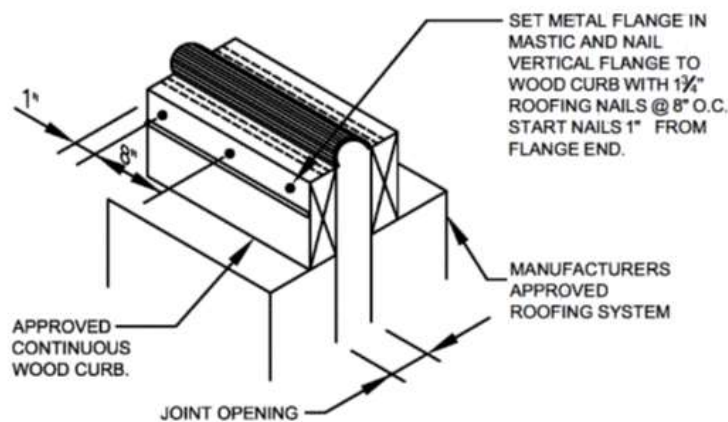

Figure 2
2. Set flange in membrane compatible mastic and nail to vertical surface of roof curb w/ (1) 1¾" roof nail at 8" o.c. start nails 1" from flange end. **See Figure 2**
2. Install provided 6" wide peel and stick splice tab. Remove paper backing ahead of splice tab application. After installation of splice tab be sure to work splice tab into each bead of caulk. **See Figure 2**